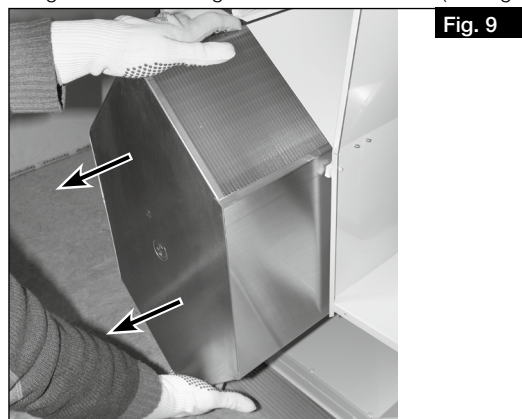

Fig. 9
2. Remove the heat exchanger from the unit to reduce the weight (see Fig. 9).